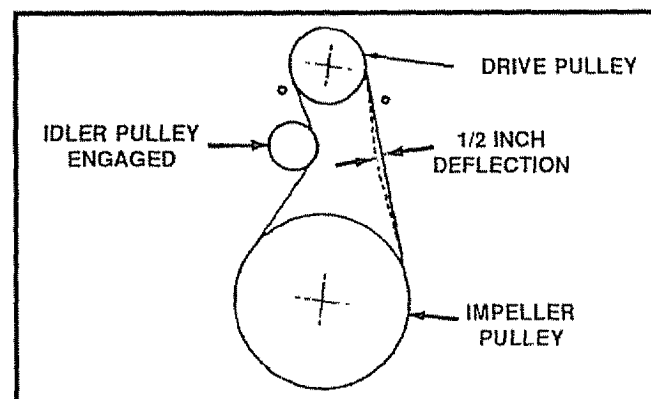

FIG. 25
- Engage the auger drive clutch lever. Check the tension on the belt (opposite idler pulley). The belt should deflect about 1/2" with moderate pressure (See Fig. 25).